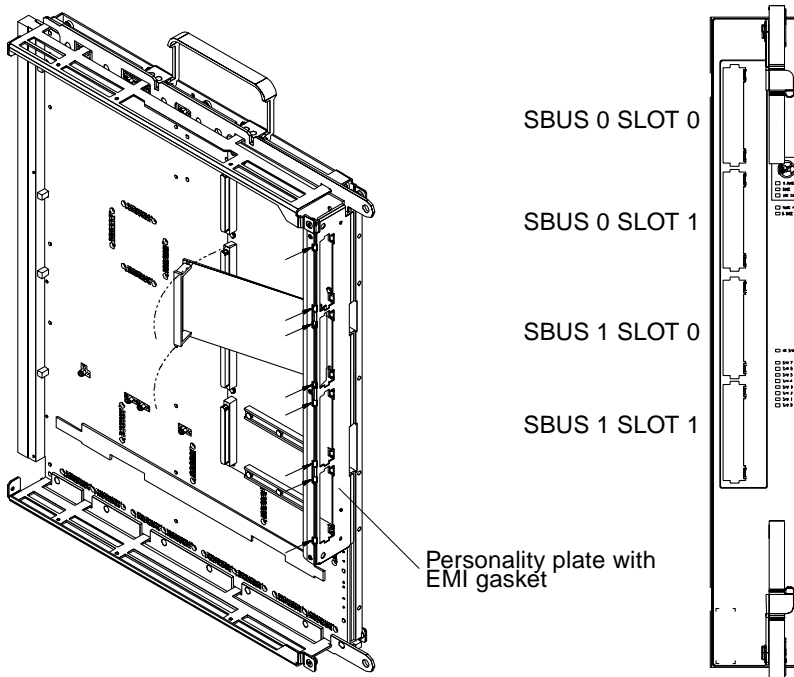

FIGURE 1 SBus Card Removal
2. Lift the SBus card from the socket at an angle while guiding the card out from the personality plate opening (FIGURE 1).